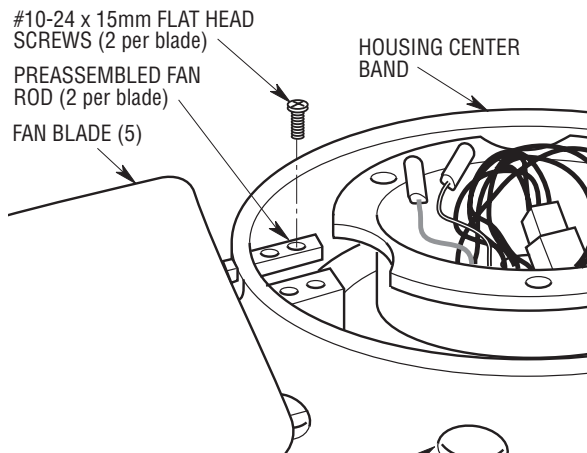

Figure 6
- 11. Position the two rods of the preassembled fan blade into the two holes of the housing center band. Install the four #10-24 x 15mm flat head screws (2 pre rod, 4 per blade assembly) (supplied) securing the fan blade to the housing (Figure 6). Install the remaining four fan blades using the same procedure.